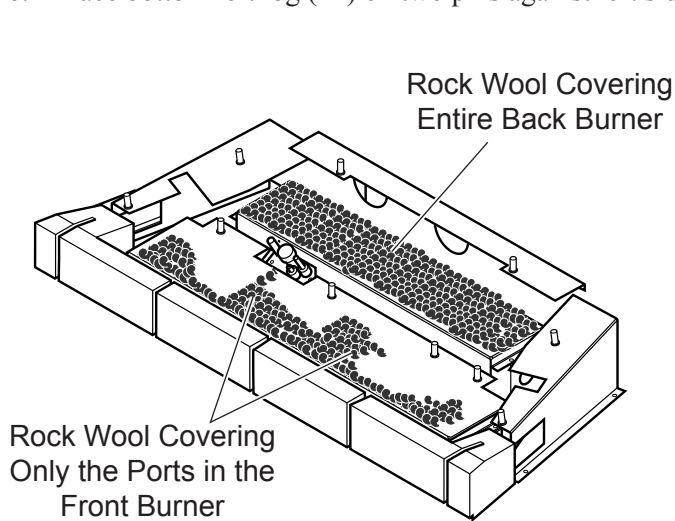

Figure 47 - Installing Rock Wool
3. Break rock wool into dime-sized pieces. Cover rear burner completely with rock wool. On front burner, only cover the ports. Do not exceed 1/2" depth of coverage. *See Figure 47.*